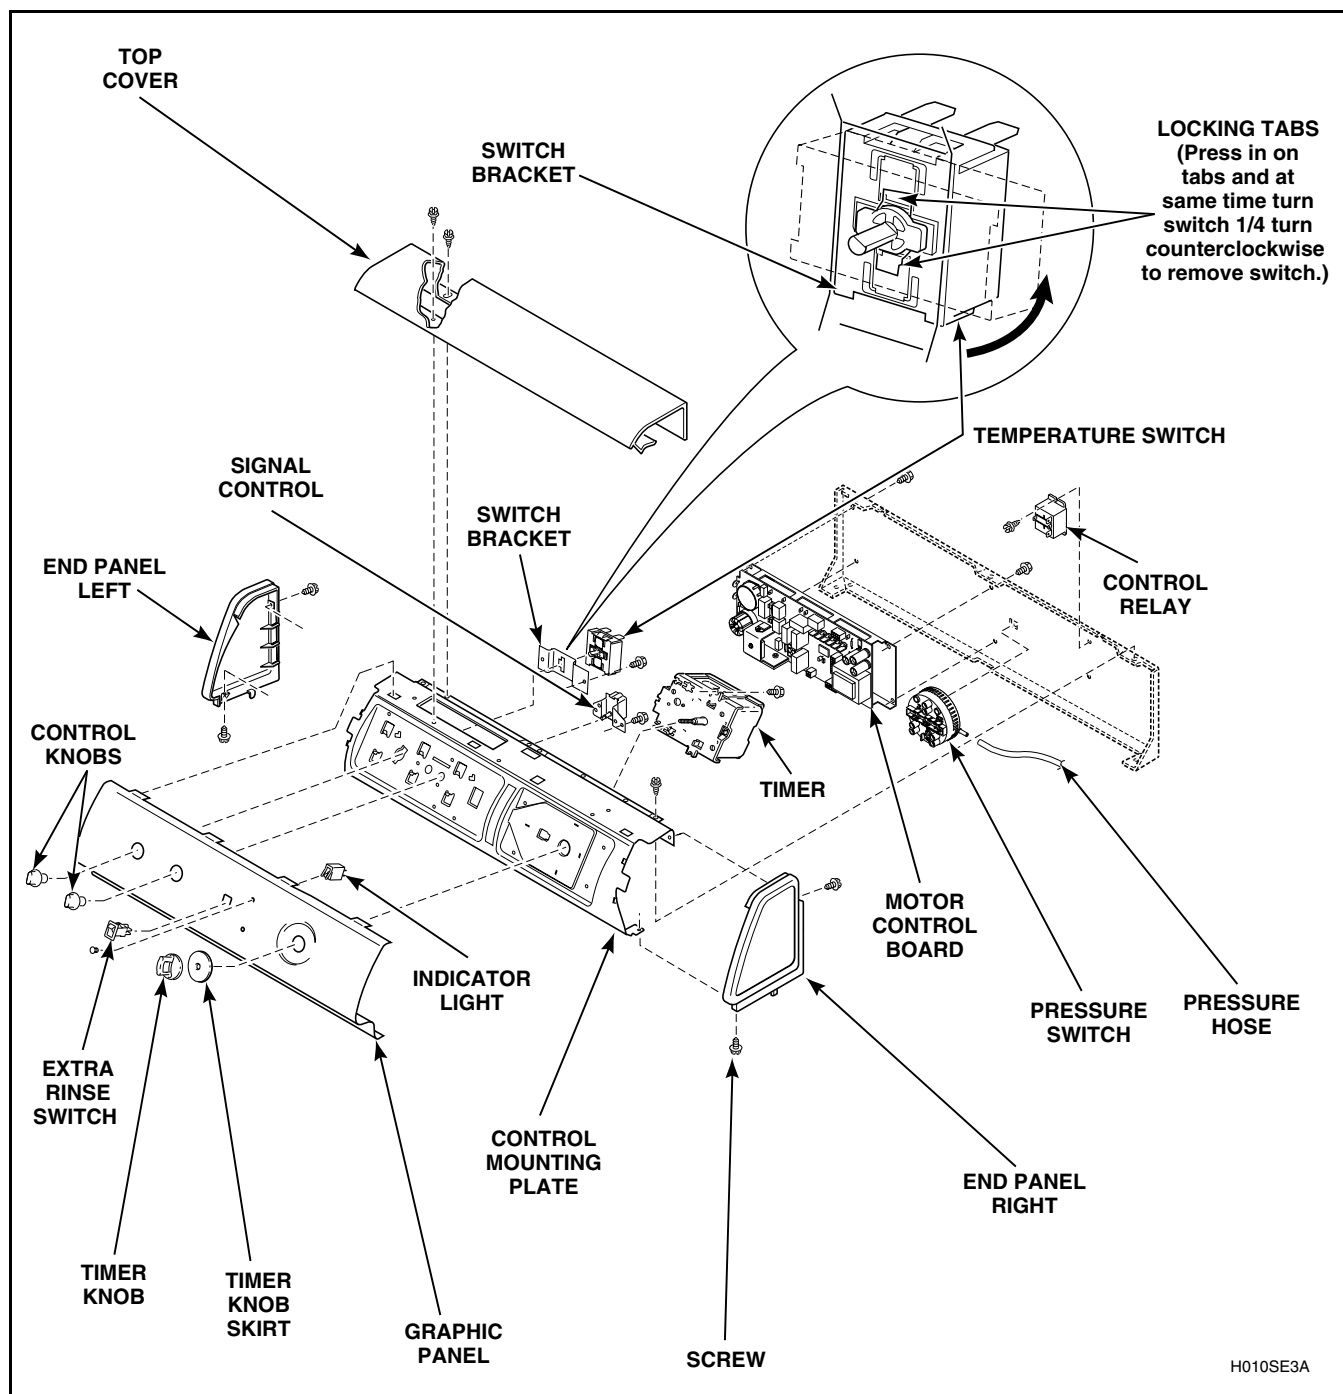

Figure 6
Remove two screws holding each end panel to control mounting plate. Refer to *Figure 6*.
- d. Refer to *Figure 6* for switch removal.
- e. Press in on two locking tabs and at the same time turn switch 1/4 turn counterclockwise to remove switch from switch bracket. Refer to *Figure 6*.
- e. Remove extra rinse switch by pressing in on locking tabs and pushing switch out through front of graphic panel. Refer to *Figure 6*.
- d. Remove two screws holding relay to control hood rear panel. Refer to *Figure 6*.
- d. Remove four screws holding motor control board to control hood rear panel. Refer to *Figure 6*.
- f. Remove two screws holding signal control to control mounting plate. Refer to *Figure 6*.
- e. Refer to *Figure 6* for light removal.